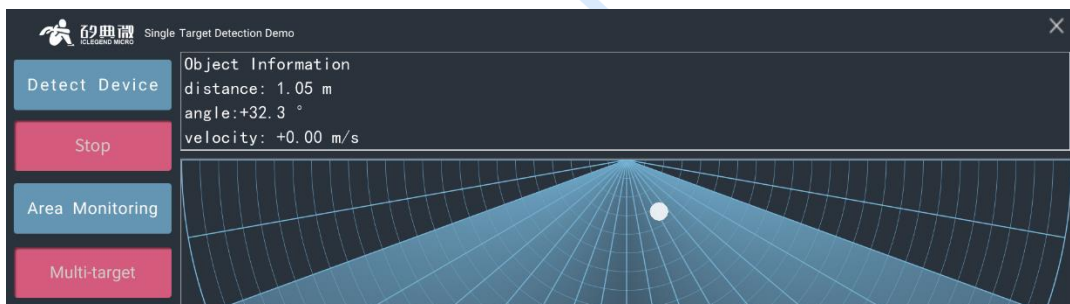

Figure 4-6 Example of single target detection demonstration
Step 3: Click the **Start/Stop** toggle button, the GUI will display the position of the detected target referring to the radar, an example is shown in Figure 4-6;